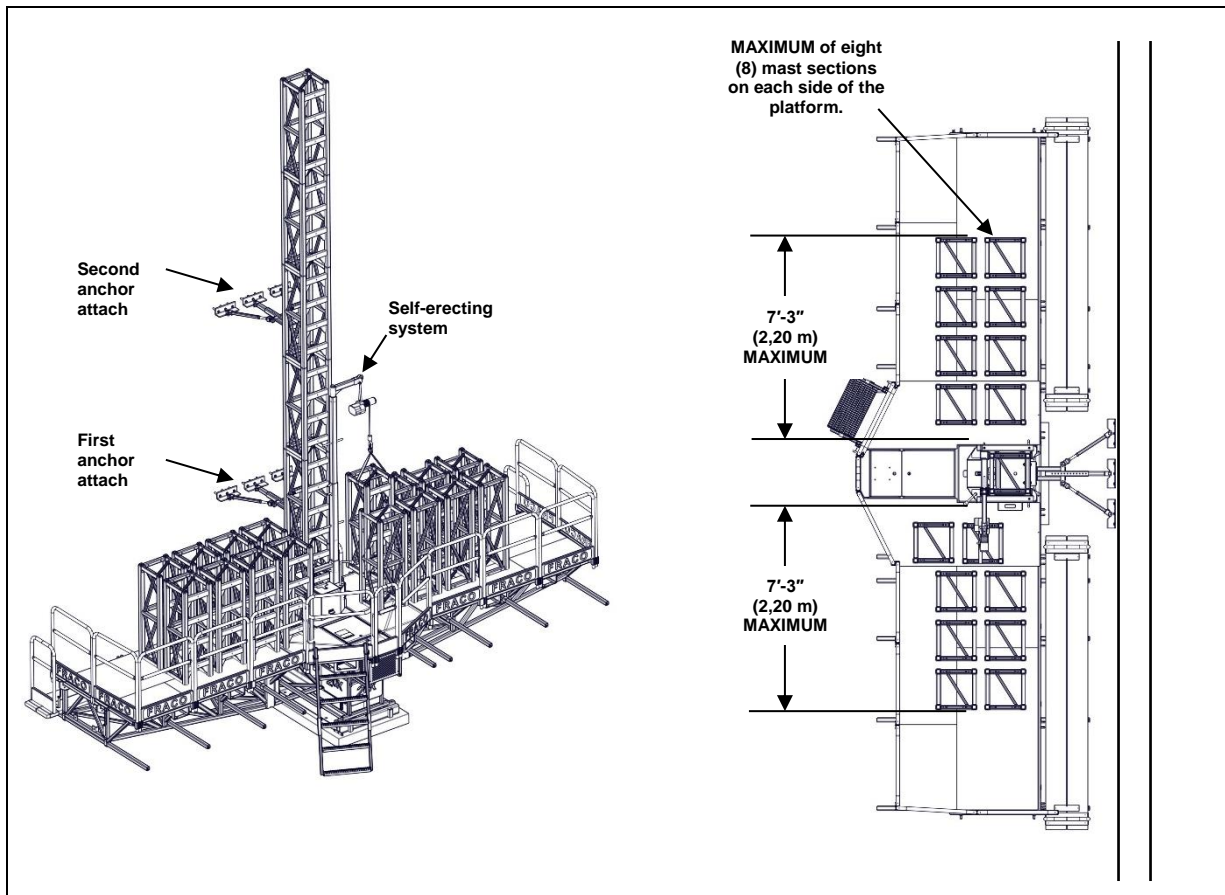

Figure 76 - Installation of masts and anchors on a ground base, self-erecting (optional)
- If you are using a self-erecting system (**optional - self-erecting system**), go to **Step 4**, (see Figure 76).
- Then install the self-erecting system and load up to eight (8) mast sections on each side of the platform [sixteen (16) sections per platform].
- Attention, it is important to always equally load the platform on both sides as shown in (Figure 76).
- Load up to a **MAXIMUM** of eight (8) mast sections on each side of the platform. Attention, it is important to also load the platform on both sides.
- Continue dismantling until only the first two (2) anchor devices remain.
- Unbolt and remove the mast sections using the self-erecting system following the same instructions as for the installation (see Figure 76). Load equally on each side of the platform up to **MAXIMUM** eight (8) mast sections at a time (sixteen [16] sections per platform **MAXIMUM**).
- Continue disassembling until only the first two (2) anchor devices remain.